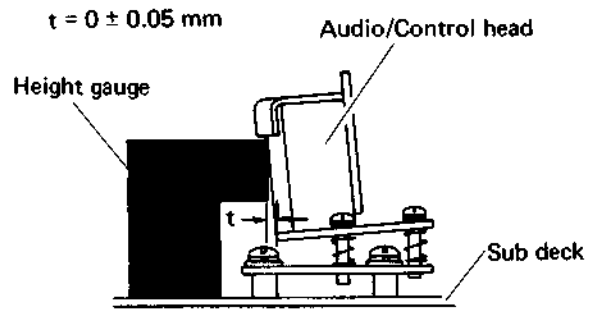

Fig. 5-9 A/C head inclination
1. Set the height gauge as shown in Fig. 5-9. Check for space t of 0 ± 0.05 mm. If not within this range, adjust according to the above steps.